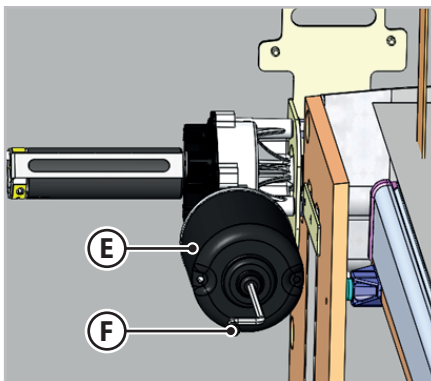

Fig. 6.21 - Releasing a Type B electric bed
2. On the underside of the motor (**E** - Fig.6.21), insert the Allen wrench (**F** - Fig.6.21) into the specific seat in order to manually move the bed.